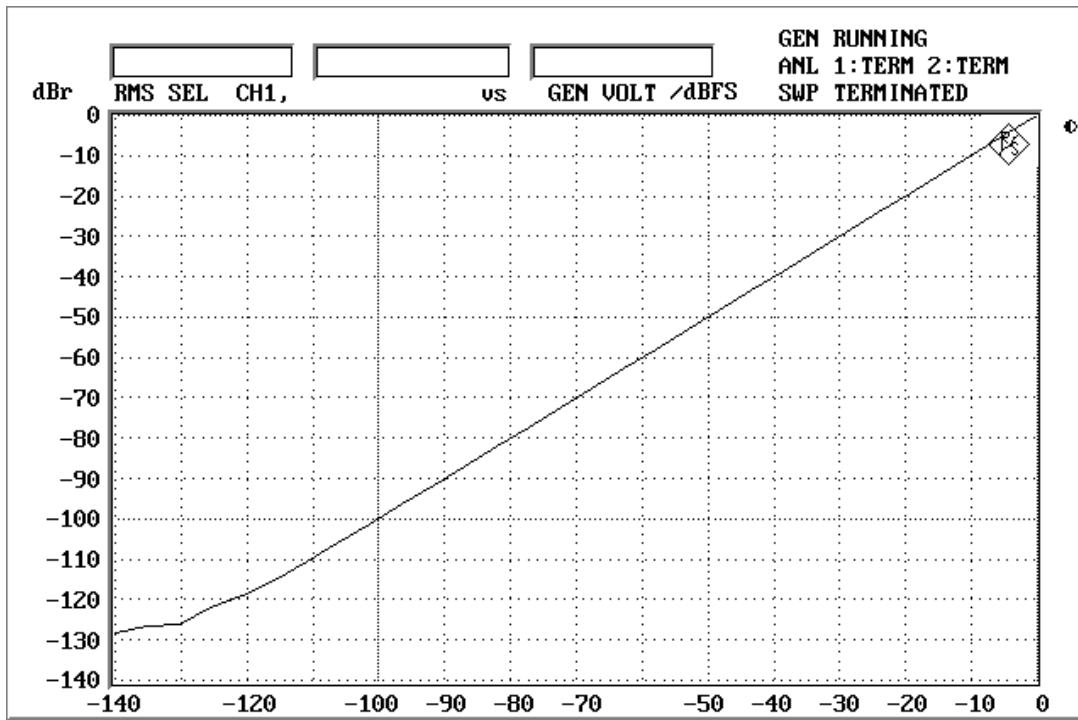

Figure 21. Linearity (fs=192kHz; fin=1kHz)
- Figure 21. Linearity (fin=1kHz)